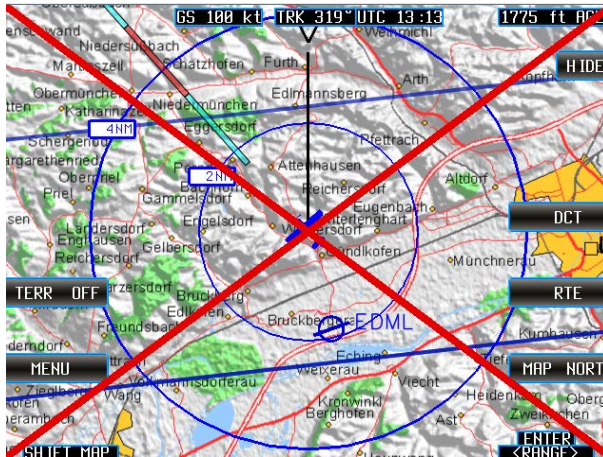

Figure 6: Base map with red cross, GPS not available
- Use the rotary-encoder left/right to change the zoom level. Figure 6 shows zoom level 2 NM/4 NM.